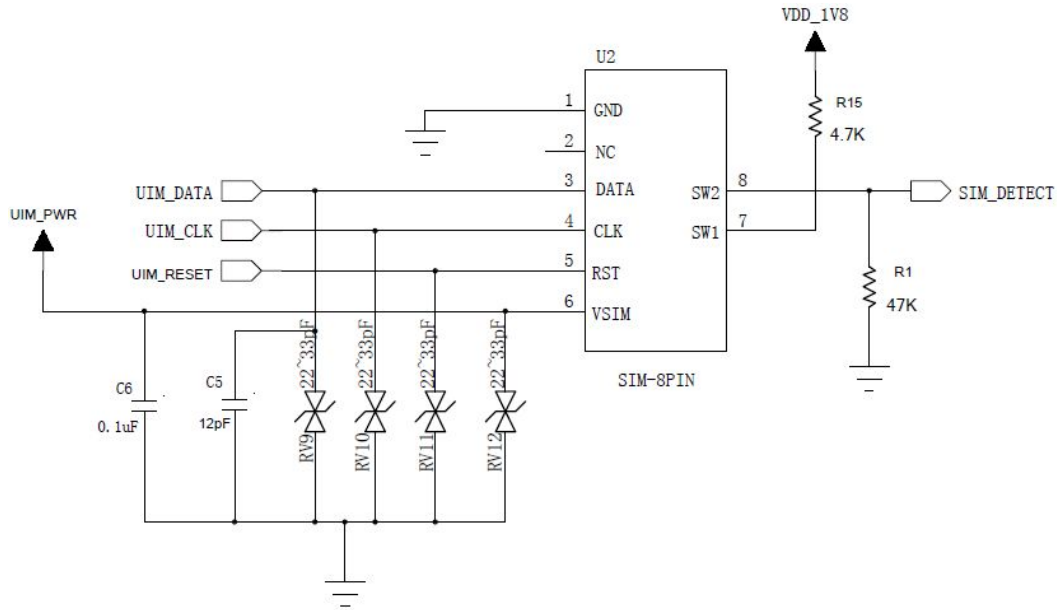

Figure 5-8 Reference Design of "Normally Open" SIM Card Interface
- For “Normal opened” SIM card, as shown in the figure 5-8, SIM_DETECT signal line is connected to U2's Pin8 (SW2), and Pin7 (SW1) will be pulled up 4.7K resistor . When the SIM card is not inserted, SW2 and SW1 will be disconnected, then SW2 will be at low level. When the SIM card is inserted, SW2 and SW1 will short circuit, SIM_DETECT level will be pulled up.